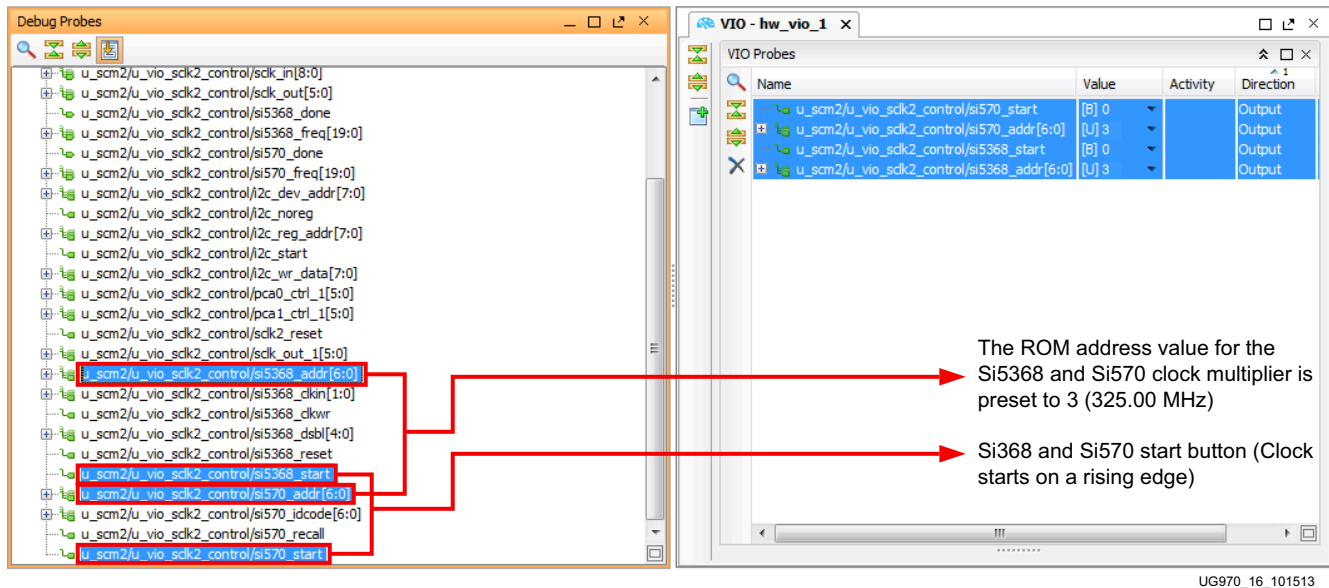

Figure 1-16: SuperClock-2 Module VIO Core
- Drag these signals from the Debug Probes window to the VIO Probes window (Figure 1-16).